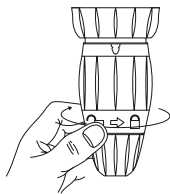

Fig.10
2. Unscrew the lock ring (with the lockers drawings) (Fig.10);